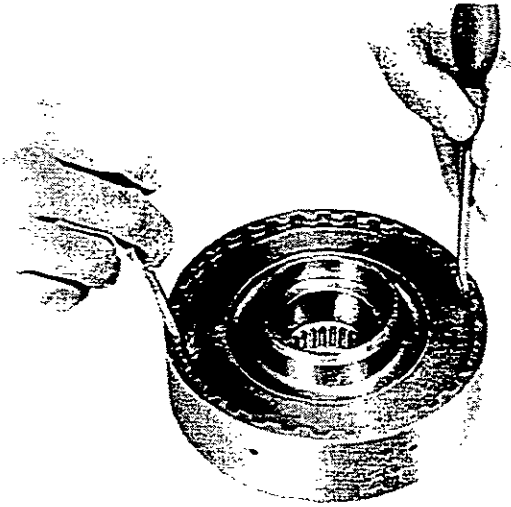

FIG. 21
- Refit the p.t.o. constant mesh gear (88) into the transmission case, then refit the p.t.o. driveshaft (90).
- If necessary, refit the piston ring (45) to the piston (46).
- Fig 21. Compressing the piston rings, as shown, refit the piston to the housing (43).